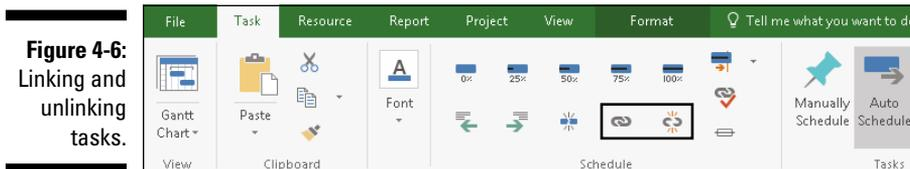

Figure 4-6:
2. **Click the predecessor task and Ctrl+click the successor task, and when both tasks are highlighted, click the Chain Link icon (see Figure 4-6) on the Task file tab in the Schedule Group.**
You can continue holding down the Ctrl key and highlighting as many tasks as you want to link. Figure 4-6 outlines the Link button and Unlink buttons.
5. Click the Type column and click the arrow that appears to display the dependency types, and then click the appropriate dependency for your situation (refer to Figure 4-6).
2. Click the Unlink Tasks button in the Schedule group on the Task tab (refer to Figure 4-6).